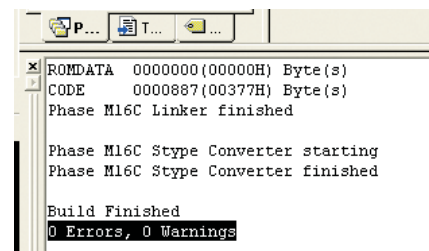

Figure 4. HEW with the skptest62P project compiled
- g) Click the “Build” icon, , to compile, assemble and link the project. HEW will look similar to Figure 4.